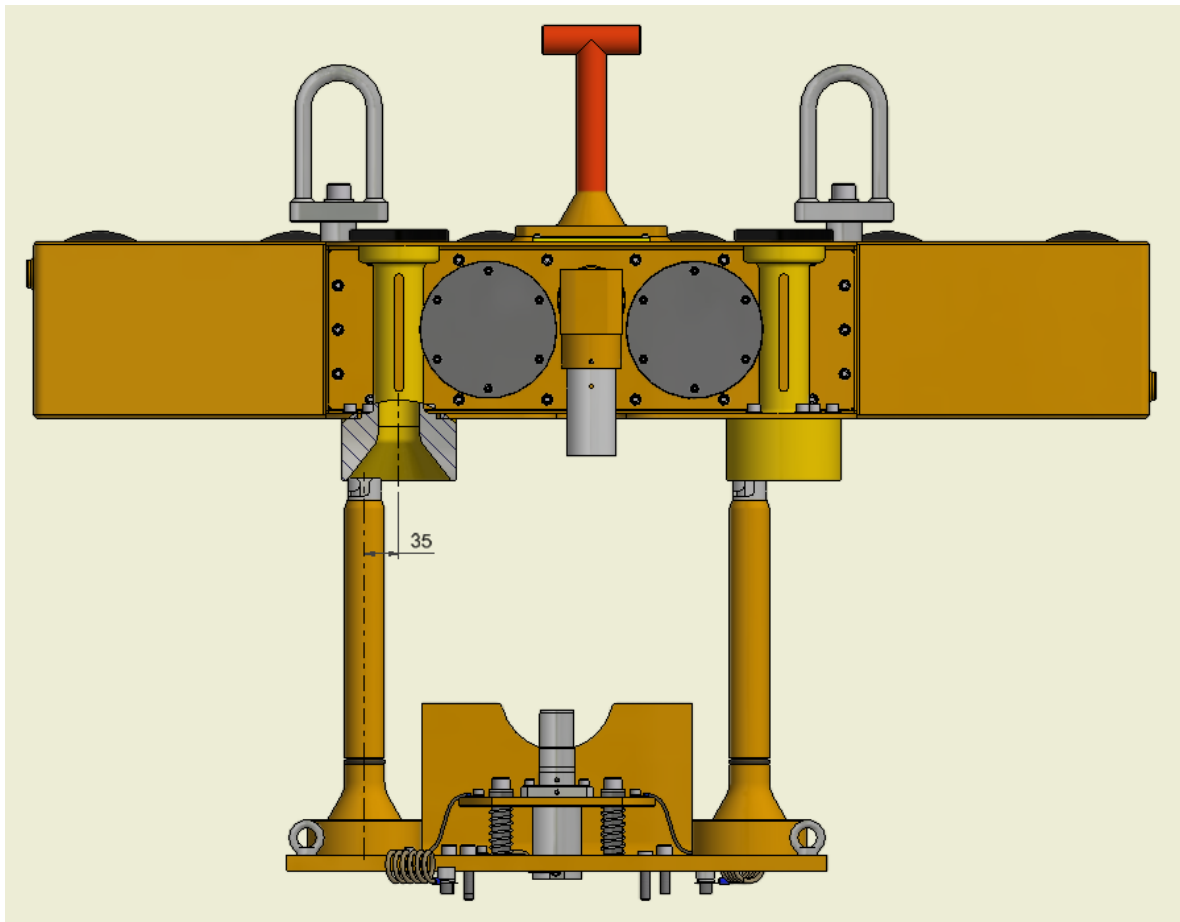

Fig.7 Allowable cone to Guide Posts concentric misalignment
11.5 Maximum cone to pin misalignment: Figure 7 shows that location cone has a maximum allowable radial misalignment of 35mm around the vertical axis of the Guide Posts.